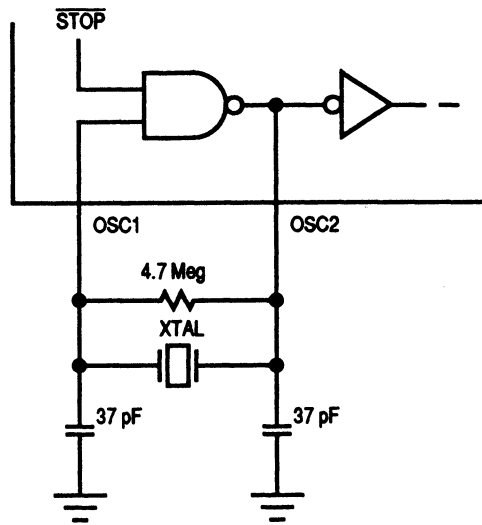

Figure 2-2. Crystal/Ceramic Resonator Connections
- A crystal or ceramic resonator (see Figure 2-2)
The circuit in Figure 2-2 shows a typical crystal oscillator circuit for an AT-cut, parallel resonant crystal. The crystal supplier's recommendations should be followed, since the crystal parameters determine the external component values required to provide maximum stability and reliable starting. The load capacitance values used in the oscillator circuit design should include all stray layout capacitances.
A ceramic resonator can be used in place of the crystal in cost-sensitive applications. The circuit in Figure 2-2 can be used for a ceramic resonator. The resonator manufacturer's recommendations should be followed, since the resonator parameters determine the external component values required to provide maximum stability and reliable starting. The load capacitance values used in the oscillator circuit design should include all stray layout capacitances.